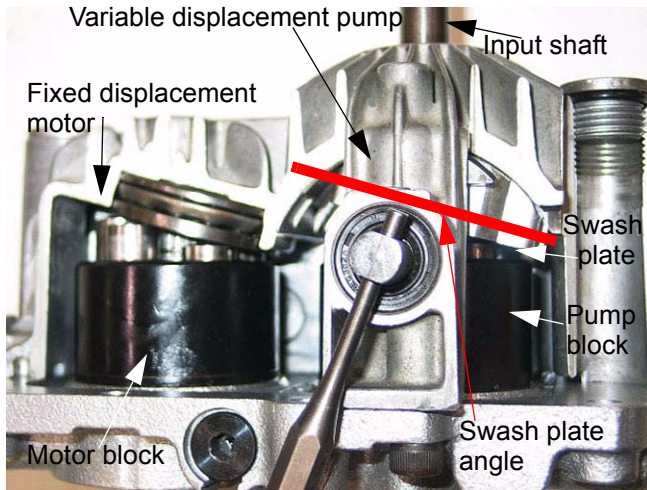

Figure 2.5
- 2.5. The hydro. control arm (scissors bracket) moves a swash plate that controls the output of the pump: tilting the swash plate in one way causes the variable displacement pump to drive fluid through the fixed displacement pump in one direction. See Figure 2.5.
**NOTE:** In figure 2.5, the pistons in the variable displacement pump are alternately pressed into the bores, and then released from bores of the rotating pump block by the tilt of the swashplate.
- On the right side of the pump block in figure 2.5, the pistons are down.